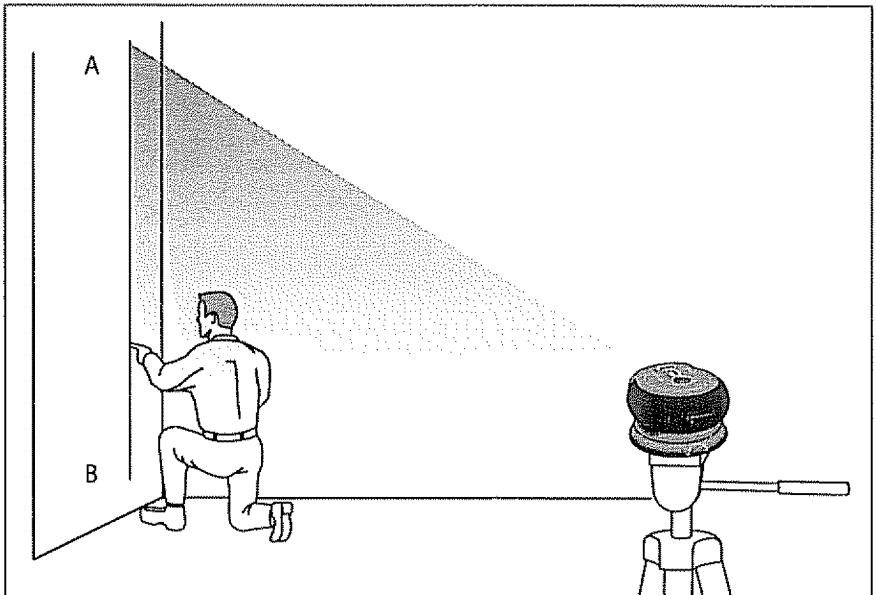

Fig. 12
### Mounting The Level To A Tripod (See Fig. 12)
4. Determine a line with two points A, B (Fig. 12). Align your laser fan beam to these points.